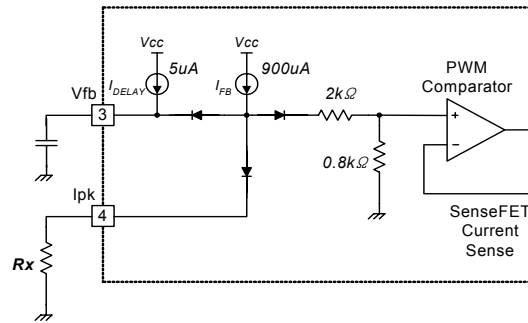

Figure 13. Peak Current Limit Adjustment
**8. Adjusting Peak Current Limit :** As shown in Figure 13, a combined  $2.8k\Omega$  internal resistance is connected to the non-inverting lead on the PWM comparator. A external resistance of Rx on the current limit pin forms a parallel resistance with the  $2.8k\Omega$  when the internal diodes are biased by the main current source of  $900\mu A$ .